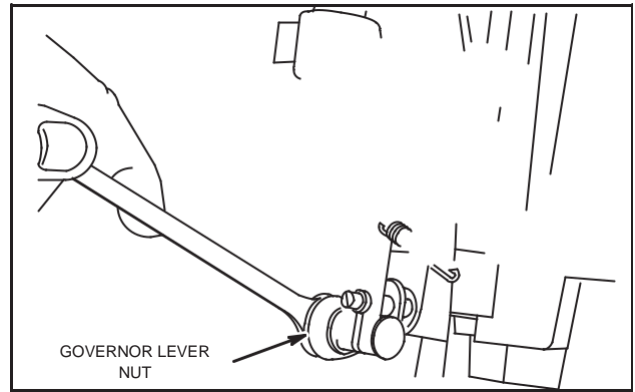

Fig. 6 – Remove Governor Lever
- a. Remove governor lever from shaft, Fig. 6.